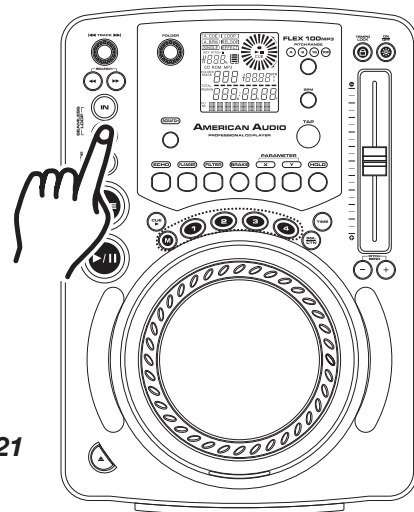

Figure 21
- 1) Press the *OUT BUTTON* (23) to return to normal play from the loops cue point. (Figure 21). This will disengage the SEAMLESS LOOP mode and allow you to edit the loops ending point.
- 2) Press the *OUT BUTTON* (23) again when you reach your new ending point (Figure 21).
- **FOR A SHORTER LOOP:** Press the *OUT BUTTON* (23) at sooner point in the track (Figure 21).
- **FOR LONGER LOOP:** Press the *OUT BUTTON* (23) at later point in the track (Figure 21).